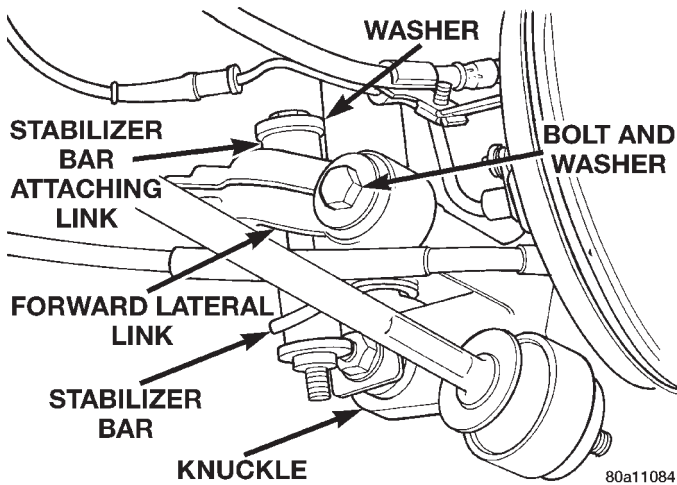
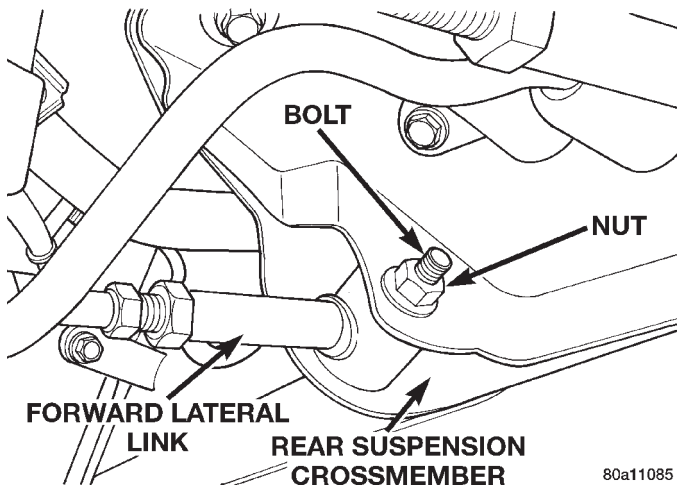

Fig. 31 Stabilizer Bar To Lateral Link Attachment
Fig. 32 Lateral Link Attachment To Rear Suspension Crossmember
(2) Remove the rear wheel and tire assembly from the side of the vehicle requiring lateral link removal.
(3) Remove the rear stabilizer bar attaching link from the forward lateral link (Fig. 31).
(4) Remove the nut, bolt and washer (Fig. 31) attaching the forward lateral link to the knuckle.
(5) Remove nut, bolt and washer, attaching the lateral link to the rear suspension crossmember (Fig. 32).
(1) Install the lateral link and the attaching nut and bolt at rear suspension crossmember (Fig. 32). **The forward lateral link is to be installed with the cup in cast portion facing down and toward rear knuckle (Fig. 31).**
(2) Install the lateral link and attaching nut and bolt at rear knuckle (Fig. 31).
(3) Torque both lateral link attaching bolts to 95 N·m (70 ft. lbs.).
(4) Install rear stabilizer bar attaching link, isolator bushings and attaching nut on forward lateral link (Fig. 31). Tighten the stabilizer bar attaching link to a torque of 32 N·m (24 ft. lbs.).
(5) Install wheel and tire assembly on vehicle. Tighten the wheel mounting stud nuts in proper sequence until all nuts are torqued to half specification. Then repeat the tightening sequence to the full specified torque of 129 N·m (95 ft. lbs.).
(6) Lower vehicle to the ground.
(7) Check and reset rear wheel Camber and Toe to specifications if required. Refer to Front And Rear Toe Setting Procedure in the Wheel Alignment Check And Adjustment section in this group of the service manual for the required Toe setting procedure.